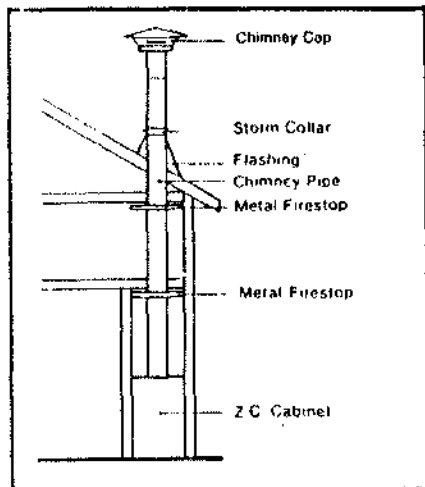
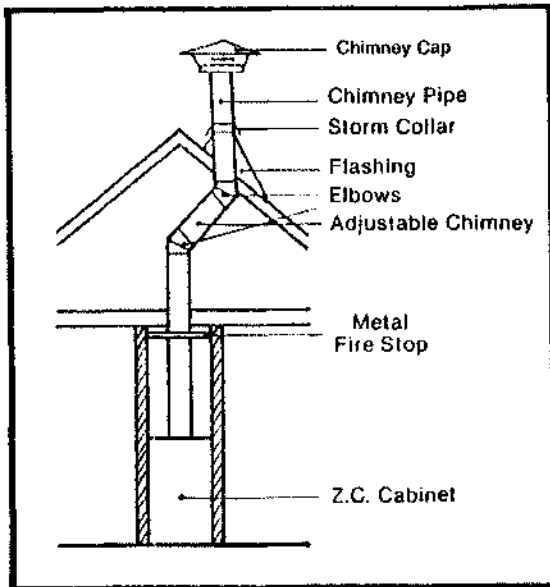

FIGURE 1 Through Ceiling & Normal Pitch Roof
FIGURE 3 OFFSET TO CLEAR OBSTRUCTION
- a. Straight up through ceiling: (See Figures 1 and 2). This is a simple installation normally used when installing a BUCKMATE inside an existing room, and in some cases, in new construction. Refer to Figure 3 if an offset to clear an obstruction is needed.
Except as noted, the BUCKMATE can be installed almost anywhere you desire. There are, however, a few clearance and framing restrictions that must be followed. See figure 1 and 2 to make sure that these clearance restrictions are met. It is much wiser to place your BUCKMATE correctly at the start of the installation than to be forced to relocate it after much of the work is done.
- b. Lay out the location on the floor and construct base (see Figure 1).
Base for BUCKMATE must be level with or slightly higher than finished hearth height - dimension (A) Figure 1. Front of BUCKMATE cabinet must be recessed 2 1/2" from finished wall.
2. Set BUCKMATE unit in place and attach safety shield to unit as shown in Figure 1-A and 1-B. You must place a non-combustible material 3/8" thick millboard or equivalent .084K factor or 2" of masonry (brick or rock) over this area as a minimum.
- Lay out the location on the floor and construct base (see Figure 1).
FIGURE 1-B: Safety shields for brick or rock hearth (Note: Cut vertical shield to fit installation height as needed. Use 26 Ga. Minimum metal being sure to cover any combustibles on the base.)
2. Set BUCKMATE unit in place and attach safety shield to unit as shown in Figure 1-A and 1-B. You must place a non-combustible material 3/4" thick millboard or equivalent K Factor = .084/BTU/F² H⁰ F inches minimum. Note: 3/8" thick millboard may be used when installing the ZC-3-01 and 27000-B.